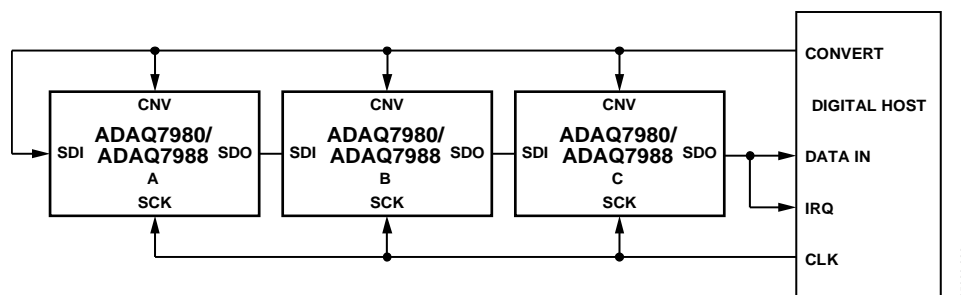
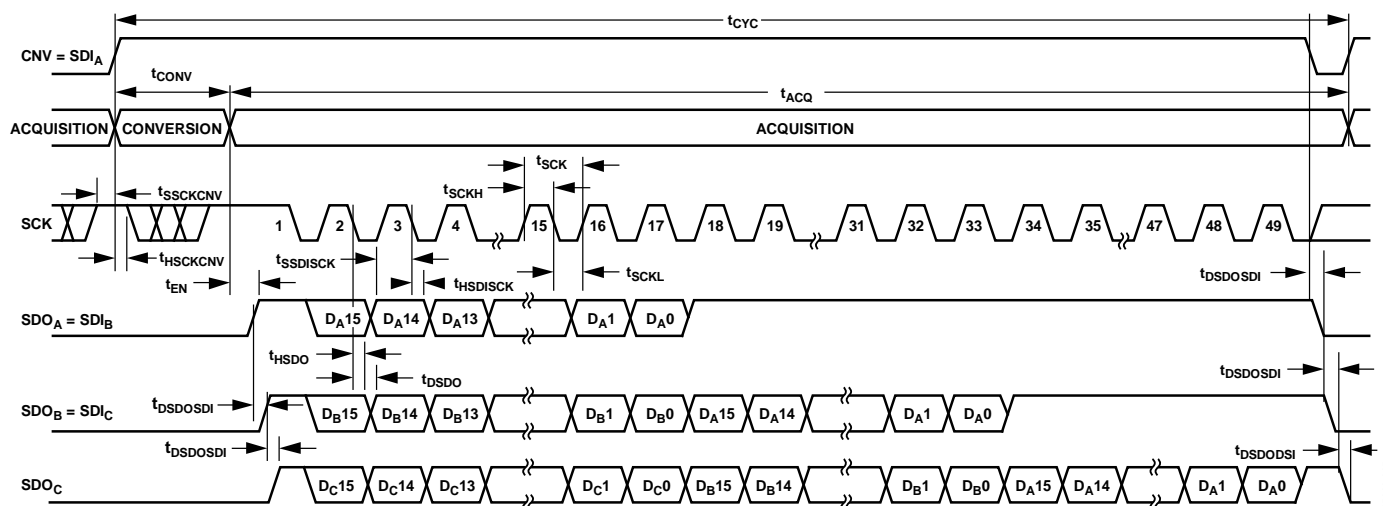

Figure 81. Chain Mode with the Busy Indicator Connection Diagram
Figure 82. Chain Mode with Busy Indicator Serial Interface Timing
- In chain mode if SCK is high during the CNV rising edge (see Figure 82).
Figure 81 shows a connection diagram example using three ADAQ7980/ADAQ7988 devices, and Figure 82 shows the corresponding timing.
In this mode, hold CNV high during the conversion phase and the subsequent data readback. When all ADCs in the chain complete their conversions, drive the SDO pin of the ADC closest to the digital host (see the ADAQ7980/ADAQ7988 ADC labeled C in Figure 81) high. Use this transition on SDO as a busy indicator to trigger the data readback controlled by the digital host. The ADAQ7980/ ADAQ7988 then enter the acquisition phase and power down. The data bits stored in the internal shift register clock out, MSB first, by subsequent SCK falling edges. For each ADC, SDI feeds the input of the internal shift register and clocks out by the SCK falling edge. Each ADC in the chain outputs its data MSB first, and $16 \times N + 1$ clocks are required to read back the N ADCs. Although the rising edge can capture the data, a digital host using the SCK falling edge allows a faster reading rate and, consequently, more ADAQ7980/ADAQ7988 devices in the chain, if the digital host has an acceptable hold time.